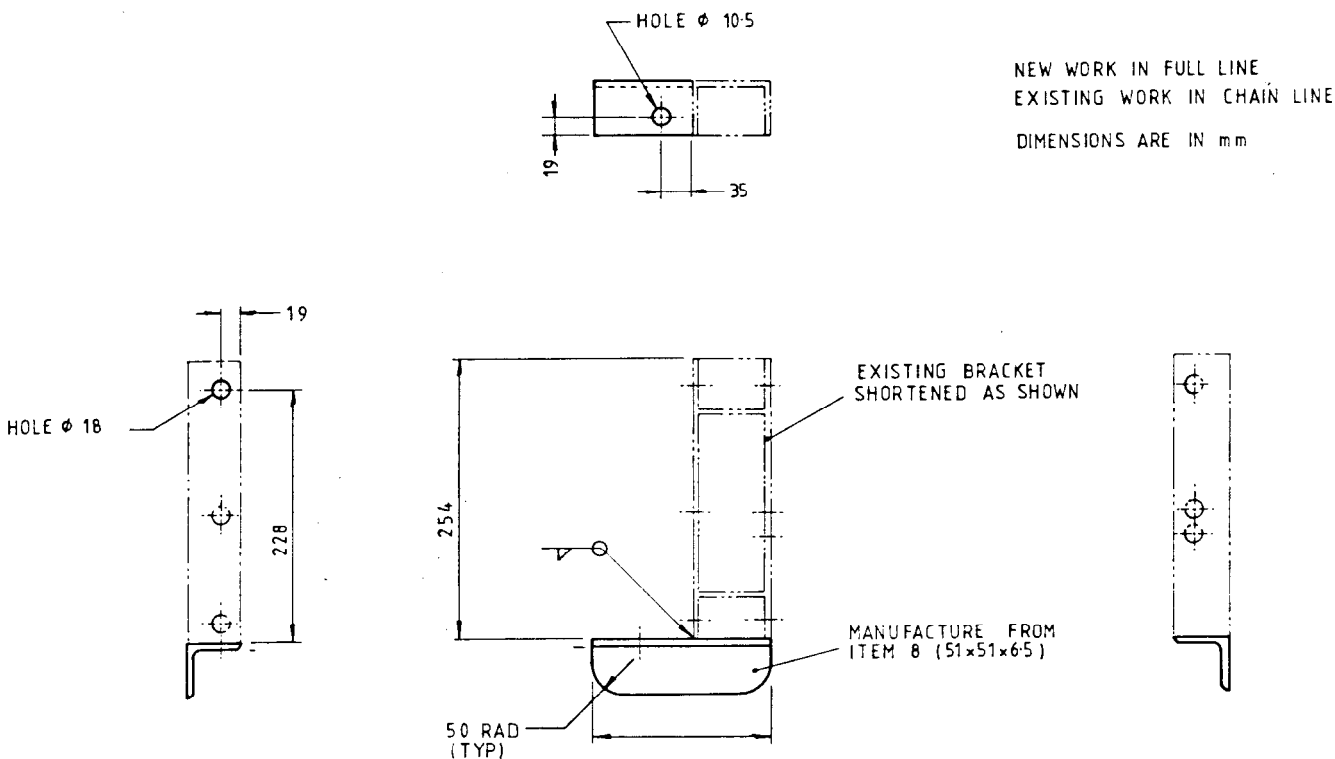

FIG 1 - CHASSIS SUPPORT BRACKET
- b. Modify the bracket as per Fig 1.